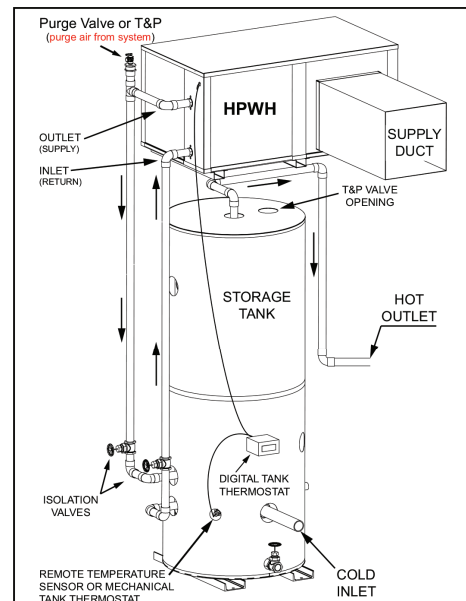
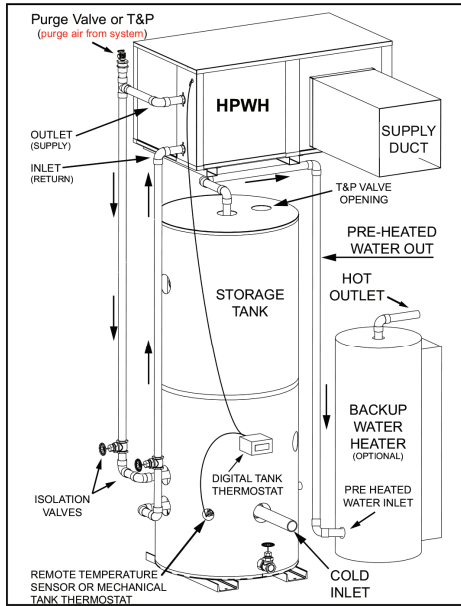

FIGURE 7
FIGURE 8
Water piping must be installed in accordance with the instructions in this manual and all local plumbing codes having jurisdiction. See Figure 7 and Figure 8 and the Piping Diagrams on page 28 as a reference for these instructions.
4. The cold water supply must be connected directly to the storage tank at a low connection port on the storage tank on single tank and two tank preheat piping configurations for optimal efficiency. See Figure 7 and Figure 8.
15. When the HPWH unit is installed above the storage tank install a Tee fitting at a high point in the outlet water line leaving the unit. Install a purge valve, or if required by local code, a T&P valve (temperature and pressure relief) in a branch of the Tee fitting that can be used to purge air from the HPWH unit during start up. See Figure 7 and Figure 8.
The HPWH must be plumbed to storage tank. The maximum stored water temperature the HPWH unit can produce in the storage tank is 150°F (66°C). Figure 7 shows a typical storage tank piping configuration. Tank ports must be large enough to handle the peak water flow rates through the water heating system. See Piping Diagrams on page 28 for detailed piping diagrams.
When water temperatures above 150°F (66°C) are required the HPWH and storage tank are piped in series (upstream) with a backup water heater. See Water Temperature on page 9. The backup water heater will raise the temperature of the preheated water to the final system temperature. Figure 8 shows a typical preheat piping configuration.